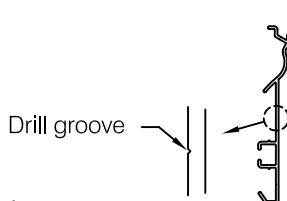

fig 6
- Step 4:** Mark and drill bracket mounting hole locations. Use groove in retainer to locate centerline for drilling, see **fig 6**.